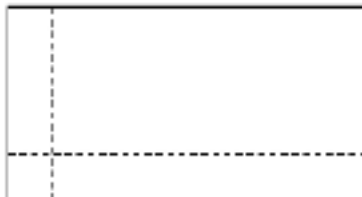

Fig. 1 Chalk lines.
- Move the chalk lines to the corner or end of the room farthest from the doorway. These lines should be 2' or 3' from the wall, depending on your reach (Fig. 1).